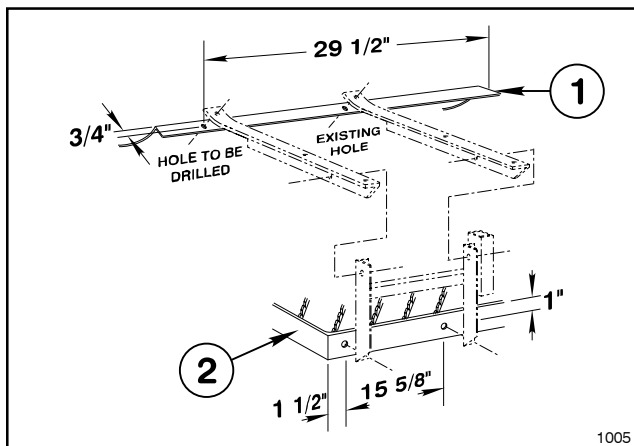

FIG. 1
2. If assembling the Hose Reel onto a Multi Pro 5500 with a serial number below 41564-70001, three (3) mounting holes must be drilled. (See Step 3) For vehicle with serial number 41564-70001 and above proceed to the Frame Assembly section of this manual.
3. Drill one (1) 7/16" dia. hole in the tank saddle and two (2) 7/16" dia. holes in the hydraulic tank mount. See FIG 1.